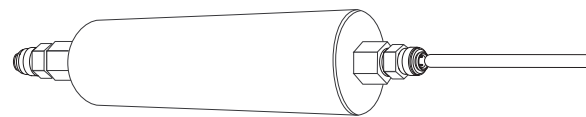

Figure 2
5. Referring to "Using Push-In Fittings" section below, insert refrigerator water supply tubing into inlet push-in fitting on filter (see Figure 2).